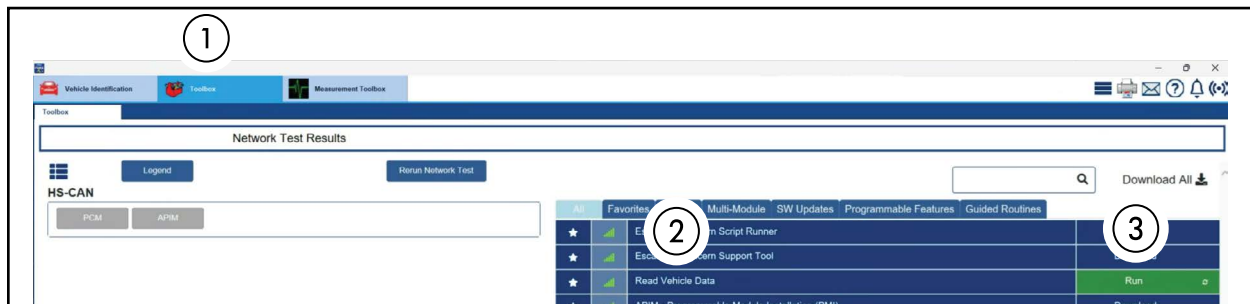

FIGURE 3
9. Select **Toolbox** (1) tab. See Figure 3.
10. Select **All**. See Figure 3.
11. Select **Read Vehicle Data** (2) and then **Run** (3). See Figure 3.
See Figure 3.